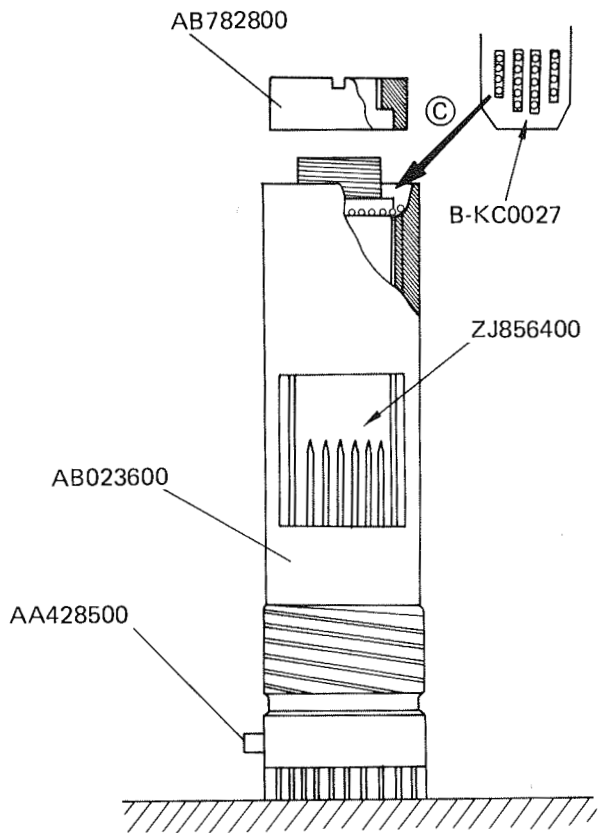

Fig. 4-12
- e) Assemble Pinion Holder AB023600 in position. (See Fig. 4-12.)
- f) Drop the Balls in the direction (C), similar to steps b) and c) above. (See Fig. 4-12.)